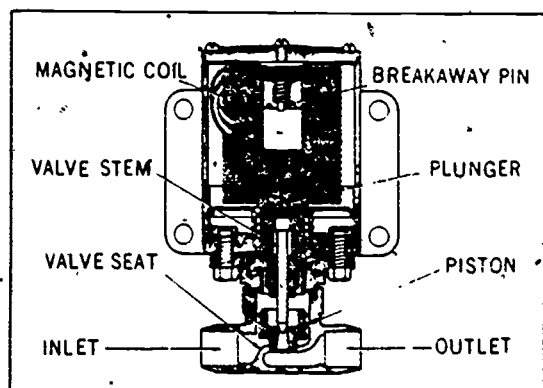

Figure 1-53. Solenoid valve.
a. Solenoid valve. Notice the components of the solenoid operated valve, illustrated in figure 1-53. This valve is installed in a pipeline to control the flow of fluid or gas. The construction of the valve is similar to that of a globe valve, but it is operated by electricity.